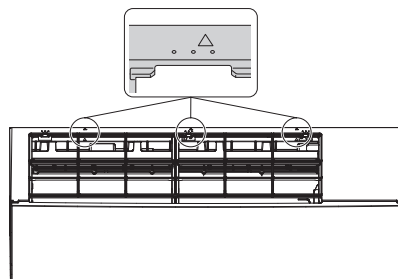

Fig. 9
- In front of the ○○○ mark of the front grille, there are 3 upper hooks. Lightly pull the front grille toward you with one hand, and push down on the hooks with the fingers of your other hand. (Refer to Fig. 9)